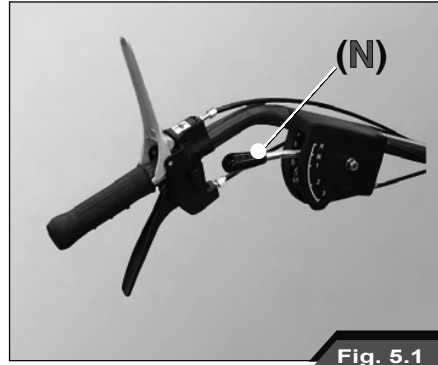

Fig. 5.1
- put the gear Lever in neutral (N, Fig. 5.1) for your own safety.
- put the vehicle (2) and blade rotor (6) levers in their vertical position, for your own safety.